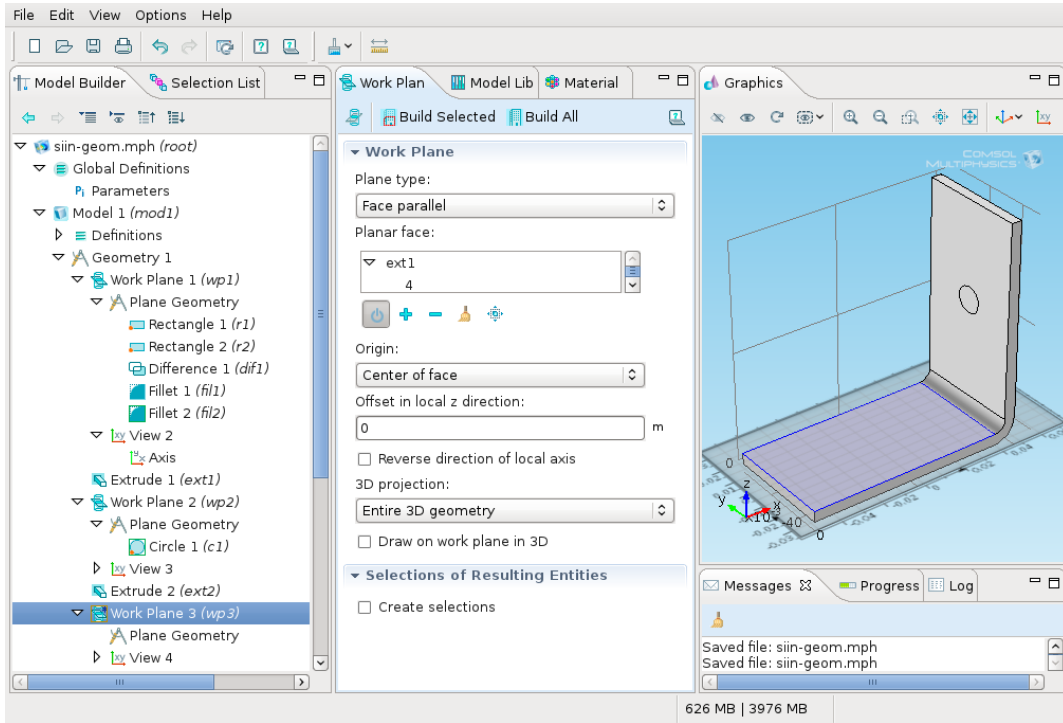

Figure 24: Adding the work plane of the second polt.
- **Geometry 1: right button** → **Work Plane** → **Plane type = Face parallel** (Fig. 24);